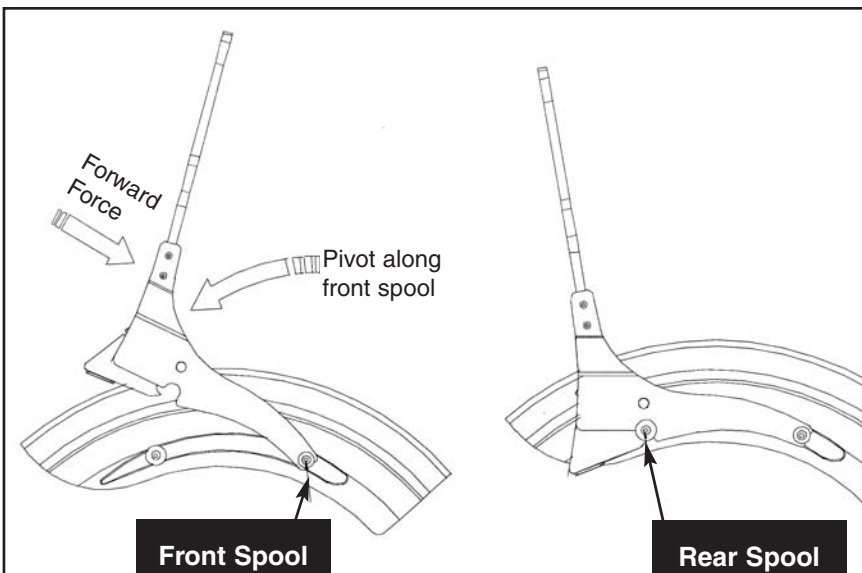

Figure 4
1. Check that QuickSet is unlocked. Install backrest assembly onto motorcycle by first positioning side plates on front spools. With smooth continuous forward force, rotate the backrest assembly downward on to the rear spools while pushing down firmly to engage side plate latch mechanism with the rear spools. **Figure 4.**